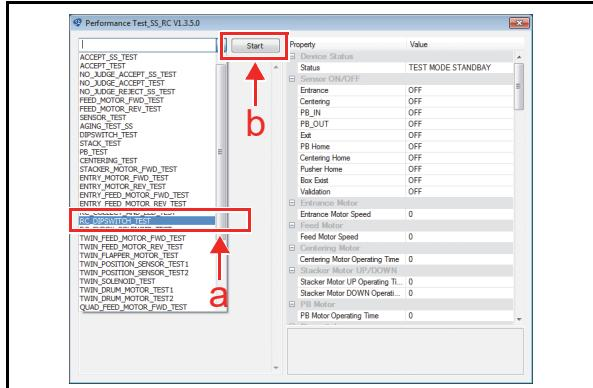

**Figure 6-33** Status LED Test 3
6. Click the "Stop" Screen Button (Figure 6-33 a) to end the test.